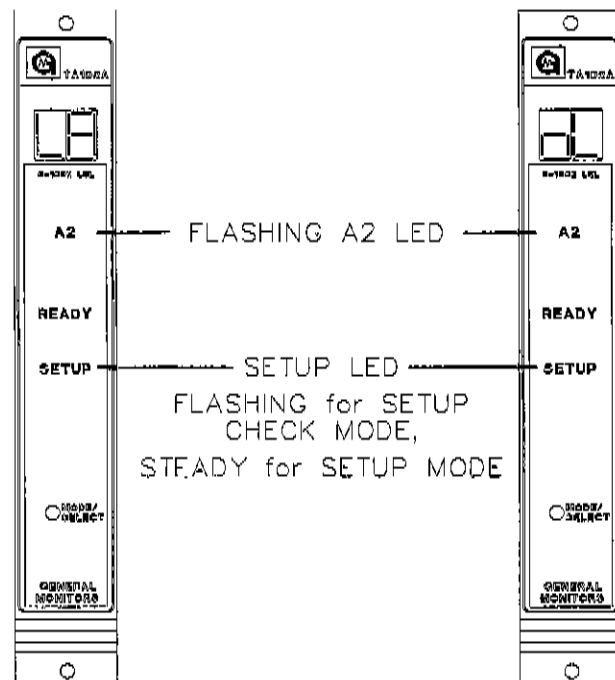

Figure 17
- The **A2** LED on the front panel will be flashing while the latching/non-latching option is displayed (figure 17). The display will indicate the current selection, (**nL** or **LA**). Latching is the factory default for this selection.